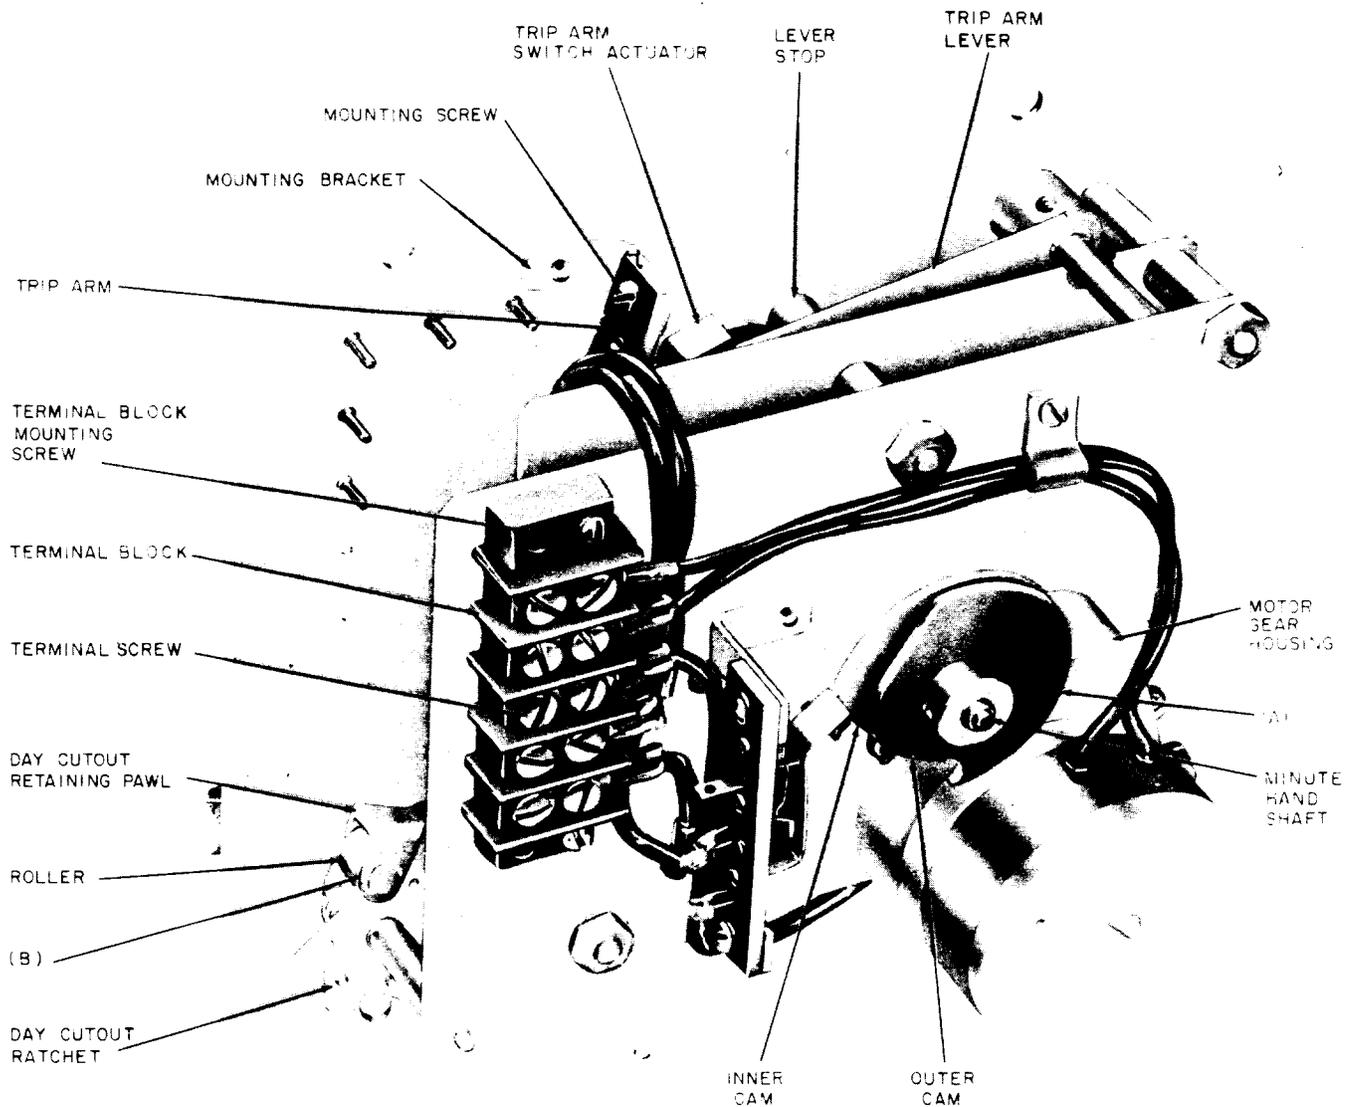

Fig. 3—KS-14741 Program Timer—Upper Rear View (L1 Timer Shown)
2.07 Clearance Between Inner Cam and Motor Gear Housing: (Not L3 or L8) Fig. 3(A)—With the end play of the camshaft taken up toward the front of the timer, the inner cam shall clear the motor gear housing by